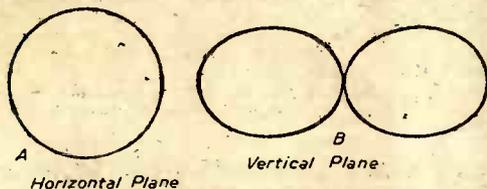

Fig. 78.—Polar diagrams of $\lambda/2$ dipole in free space.
Let us consider a $\lambda/2$ dipole situated in free space, i.e., away from all influencing factors. Fig. 78 (A) and (B) shows its directional properties in a plane horizontal to the dipole and a plane vertical to the dipole, respectively.